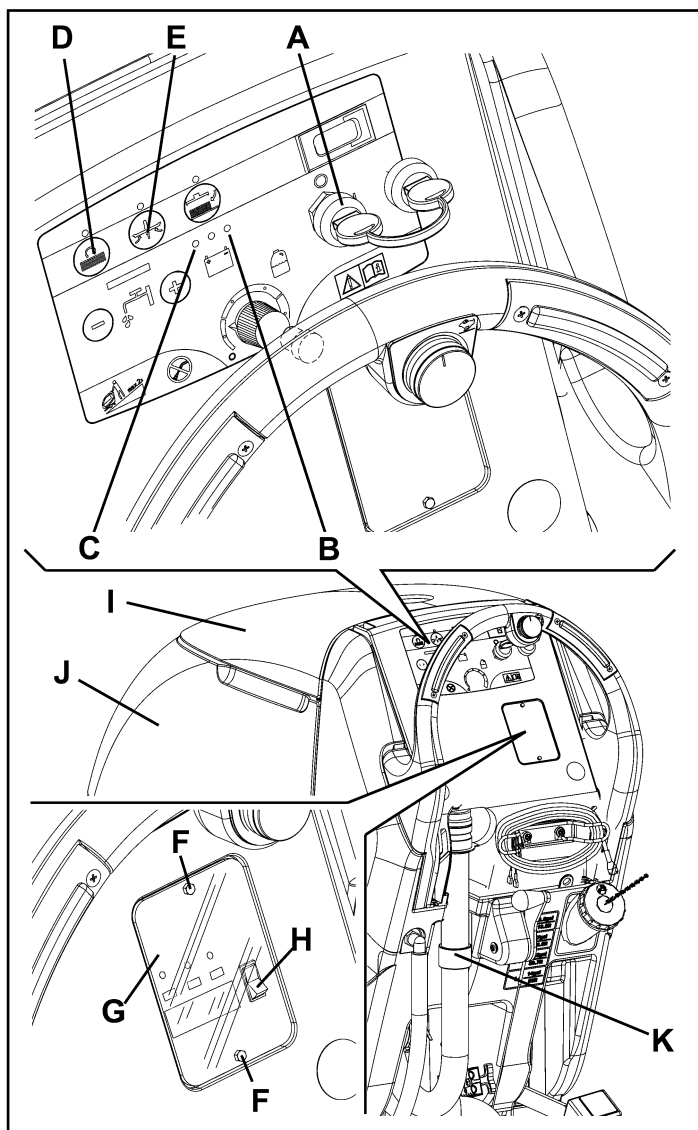

Figure 7
1. Turn the ignition key (A, Fig. 7) to "I" and in the very first seconds of machine operation pay attention to the following:
- If the green warning light (B) is flashing, the machine is set to AGM.
- If the red warning light (C) is flashing, the machine is set to WET.
3. Turn off the machine and turn the ignition key (A) to "0".
4. Press and hold the switches (D) and (E) at the same time, then turn the ignition key (80) to "I".
5. Release the switches (D) and (E) at least 8 seconds after turning the machine on.
6. Within 3 seconds, press the switch (E) again for a few seconds and check that the warning light for the required setting is flashing (as shown in step 1).